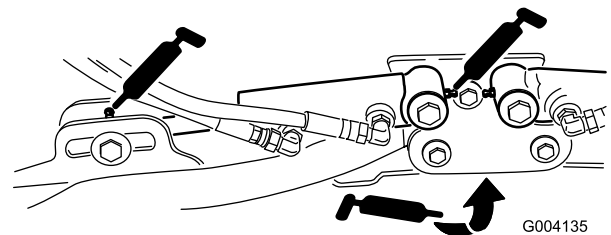

Figure 52
- Cutting unit lift arm cylinders (2 each) (Figure 52)
- Lift arm pivots (1 each) (Figure 52)